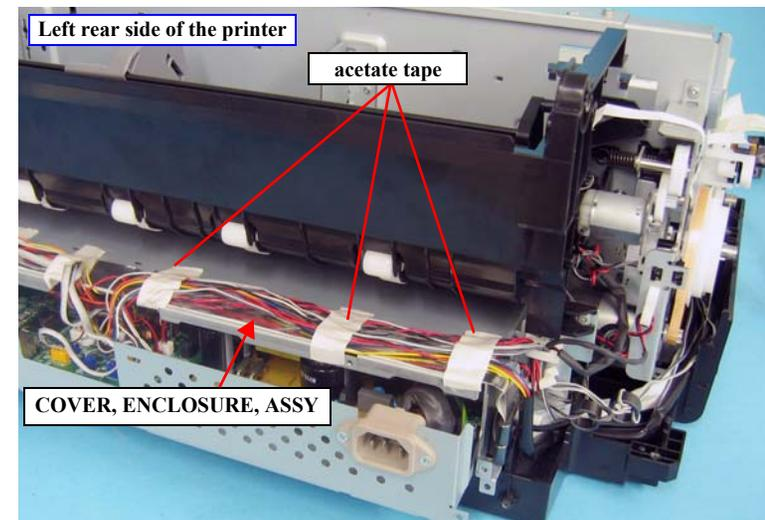

Figure 4-98. Releasing the HARNESS
5. Peel off the acetate tape on the COVER, ENCLOSURE, ASSY, and release the cables of the MOTOR ASSY., PRESSURIZING and PRESSURE SENSOR/PRESSURE PUMP HOME SENSOR. See Figure 4-98.